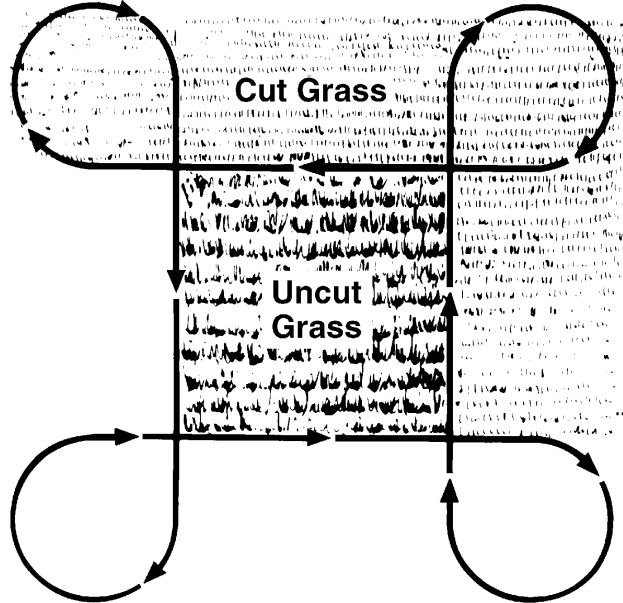

Figure 61
4. Follow the mowing pattern shown in Figure 61.